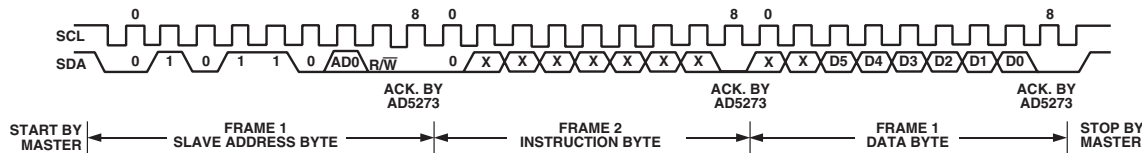
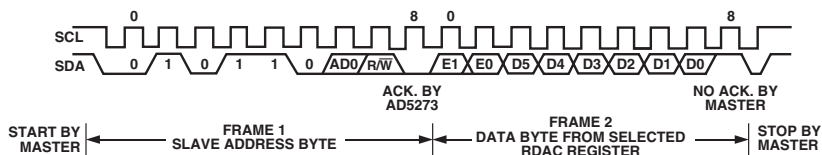

Figure 10a. Writing to the RDAC Register
Figure 11. Reading Data from the RDAC Register
For users who do not use the software solution, the AD5273 can be controlled via an I²C compatible serial bus and is connected to this bus as a slave device. Referring to Figures 10a, 10b, and 11, the 2-wire I²C serial bus protocol operates as follows:
1. The master initiates data transfer by establishing a start condition, which is when SDA goes from high to low while SCL is high (Figure 10a). The following byte is the slave
2. A write operation contains one more instruction byte than the read operation. The instruction byte in the write mode follows the slave address byte. The MSB of the instruction byte labeled T is the one-time programming bit. After acknowledging the instruction byte, the last byte in the write mode is the data byte. Data is transmitted over the serial bus in sequences of nine clock pulses (eight data bits followed by an acknowledge bit). The transitions on the SDA line must occur during the low period of SCL and remain stable during the high period of SCL (see Figure 10a).
3. In the read mode, the data byte follows immediately after the acknowledgment of the slave address byte. Data is transmitted over the serial bus in sequences of nine clock pulses (slight difference with the write mode, there are eight data bits followed by a no acknowledge bit). Similarly, the transitions on the SDA line must occur during the low period of SCL and remain stable during the high period of SCL as shown in Figure 11.
4. When all data bits have been read or written, a stop condition is established by the master. A stop condition is defined as a low-to-high transition on the SDA line while SCL is high. In the write mode, the master will pull the SDA line high during the 10th clock pulse to establish a stop condition (see Figures 10a and 10b). In the read mode, the master will issue a no acknowledge for the ninth clock pulse, i.e., the SDA line remains high. The master will then bring the SDA line low before the 10th clock pulse, which goes high to establish a stop condition (see Figure 11).